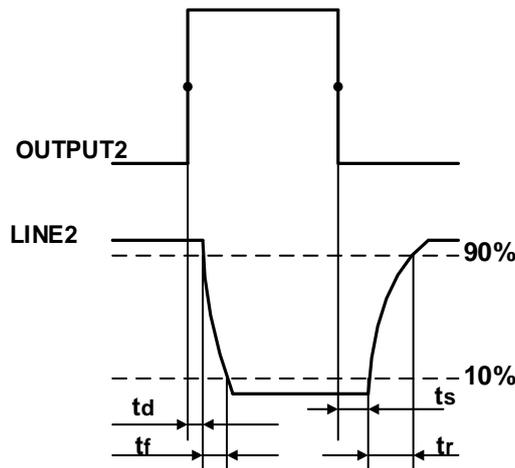

Figure 7-30 Parameter of opto-isolated output circuit
- Rising time delay =  $t_d+t_f$ :  $<20\mu s$  (0°C~45°C) (parameter description as shown in Figure 7-30)
- Falling time delay =  $t_s+t_r$ :  $<20\mu s$  (0°C~45°C) (parameter description as shown in Figure 7-30)